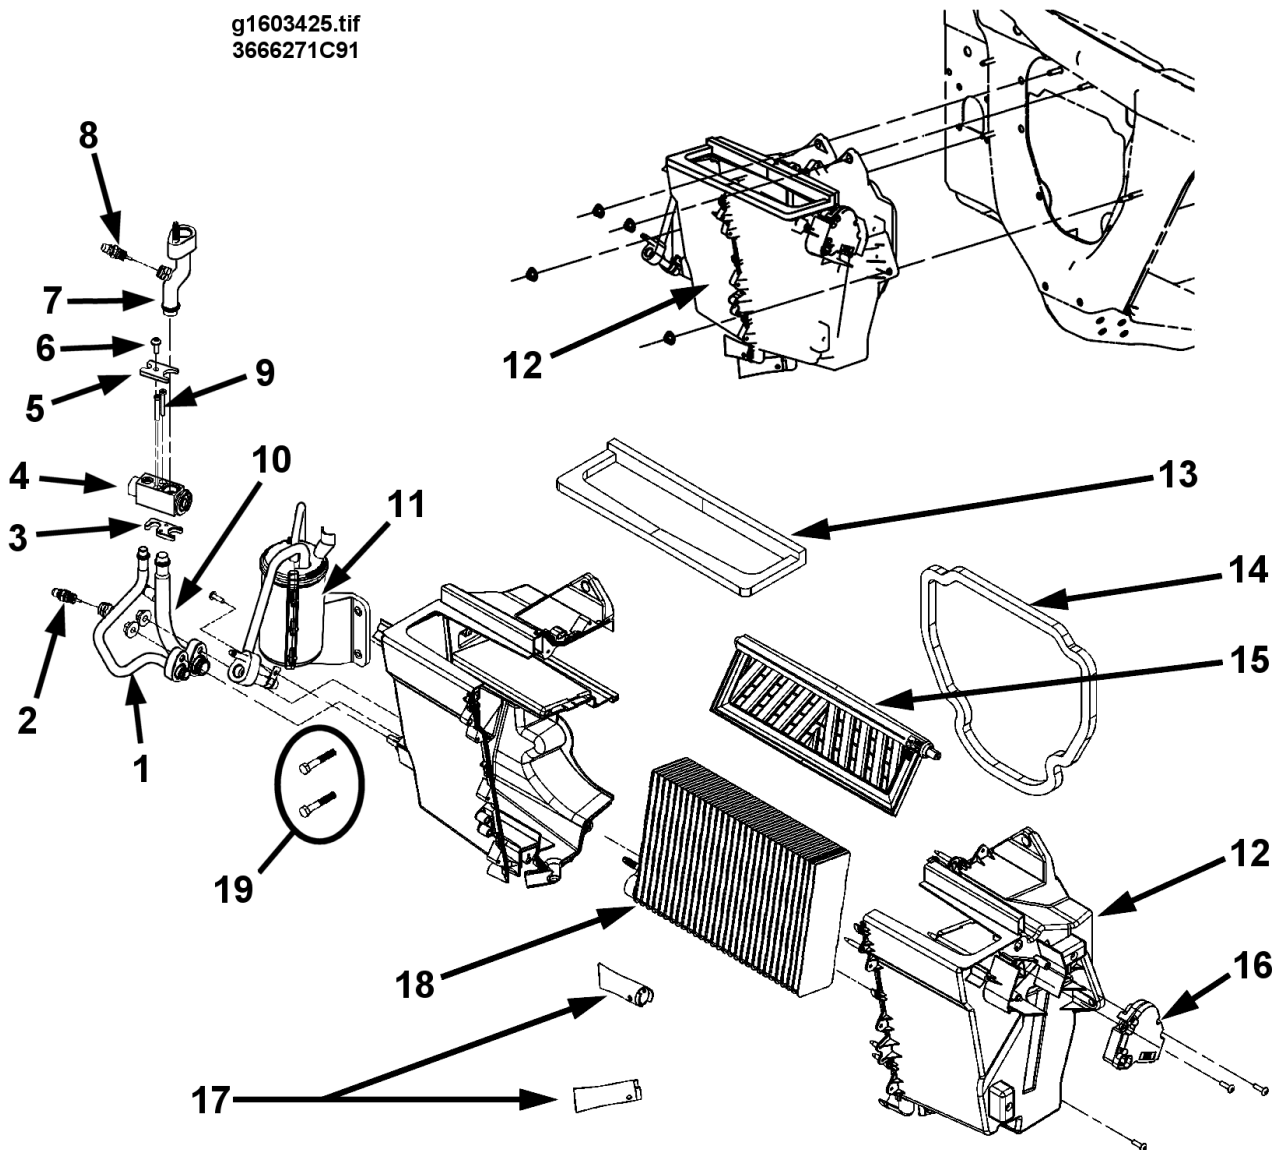
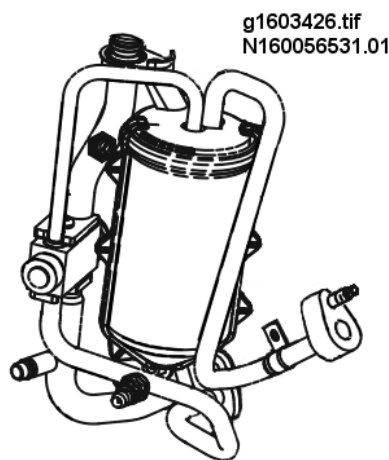

Figure 25 Evaporator Housing Mounting and Components
Figure 26 Filter-Drier, Expansion Valve, and Associated A/C Lines
10. Disconnect wiring connector to actuator motor for fresh/recirc air door (16, Figure 25).
11. Remove four nuts securing evaporator housing (12, Figure 25) to mounting studs on cowl.
13. To remove recirc door actuator (16, Figure 25), remove two screws securing actuator to evaporator housing (12).
14. Remove drain tubes (17, Figure 25) from evaporator housing.
15. Remove filter-drier, expansion valve, and associated a/c lines, as an assembly (Figure 26), as follows.
- b. Remove nuts securing evaporator inlet and outlet lines (1 and 10, Figure 25) to the evaporator core inlet and outlet fittings.
- c. While supporting filter-drier (11, Figure 25), remove two mounting bolts (19) securing filter-drier to evaporator housing.
17. Remove and discard mounting gaskets (13 and 14, Figure 25) if they are damaged during separation.
4. If fresh/recirculate air door actuator (16, Figure 25), was previously removed, install actuator by rotating door until flats on door shaft align with actuator hub, if possible. If actuator drive collar must be moved to allow alignment:
6. Install drain tubes (17, Figure 25).
7. Using a new gasket/seal (14, Figure 25), install evaporator housing (12) onto mounting studs located on cowl using four nuts. Tighten to 5,400 to 7,600 N.mm (47.5 to 67.5 lbf-in).
8. Place new O-rings and C-plates on evaporator inlet and outlet lines (1 and 10, Figure 25).
9. Place filter-drier/expansion valve assembly (Figure 26) into its approximate position by inserting evaporator inlet and outlet lines into evaporator core inlet and outlet fittings; AND loosely installing the two filter-drier mounting bolts (19, Figure 25). (Filter-drier mounting bolts must be loose enough to allow proper alignment of evaporator inlet and outlet fittings while supporting the weight of the filter-drier.)
18. Connect wiring connector to actuator motor (16, Figure 25) for fresh/recirc air door.